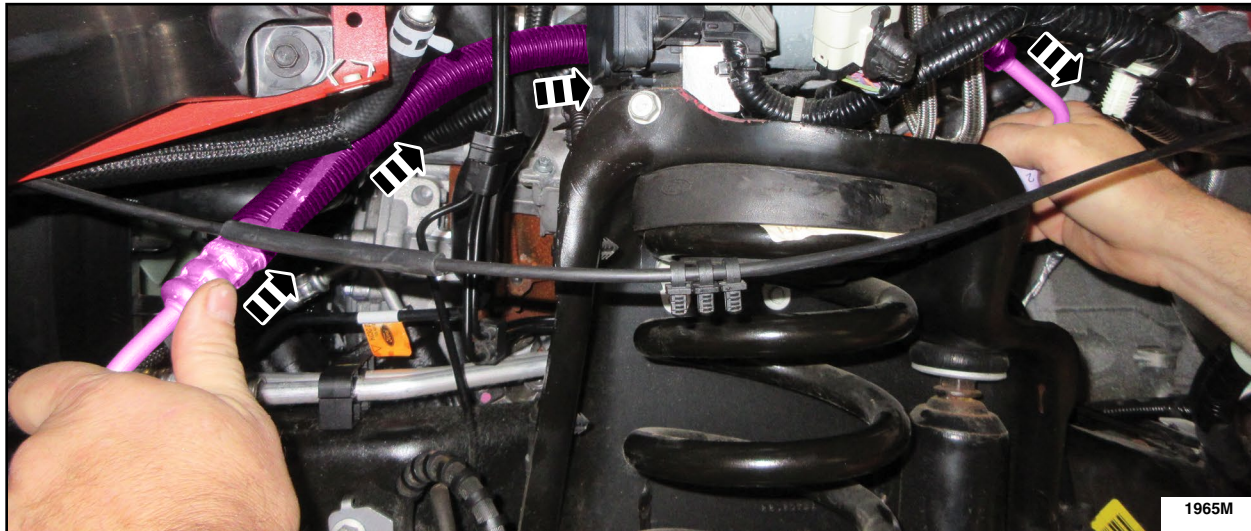

FIGURE 14
8. Working through the wheel well, route the *new* power steering pump to Hydro-Boost pressure hose upwards to the pressure hose coupler. See Figure 14.